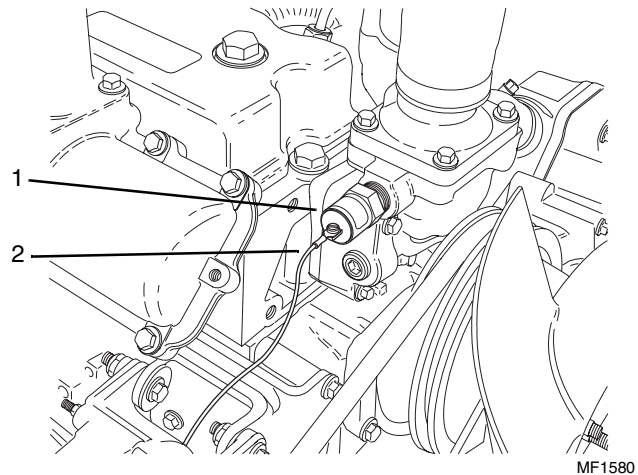

Figure 8-9 Engine Water Temperature Switch
The water temperature switch (Fig. 8-9, 1) is located on the left side of the thermostat housing on the engine. It senses coolant overheating which closes the switch and illuminates the warning light.
2. Locate the engine water temperature switch (Fig. 8-9, 1) on the thermostat housing on the engine.
3. Disconnect the wire (Fig. 8-9, 2) from the switch terminal. Drain sufficient coolant from the radiator to allow removal of the switch (1) from engine without excessive coolant loss.
4. Test the switch (Fig. 8-9, 1) using an ohmmeter or continuity tester connected to the switch terminal and body as follows:
6. Reconnect the wire (Fig. 8-9, 2) to the switch (1) terminal.